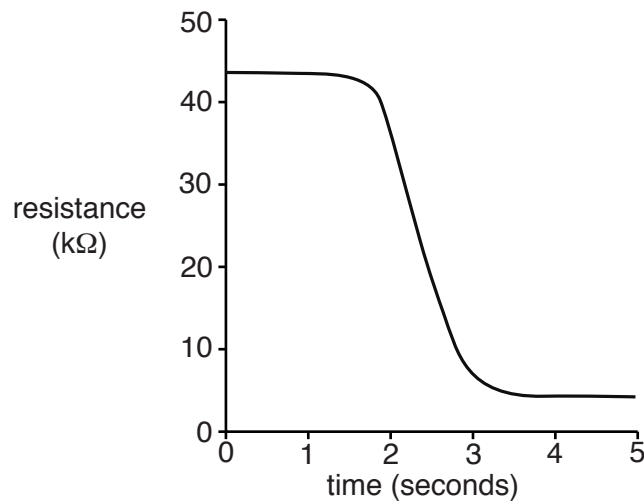

**Fig. 1**
- 1 (a) Fig. 1 shows two sensing components with their circuit symbols. Name each component.